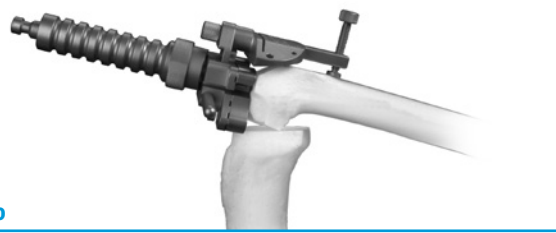

Fig. 75b
- Attach the cutting guide assembly onto the Revision IM Guide, and turn the thumb screw on the cutting guide until it contacts the anterior femoral cortex (Fig. 75b).